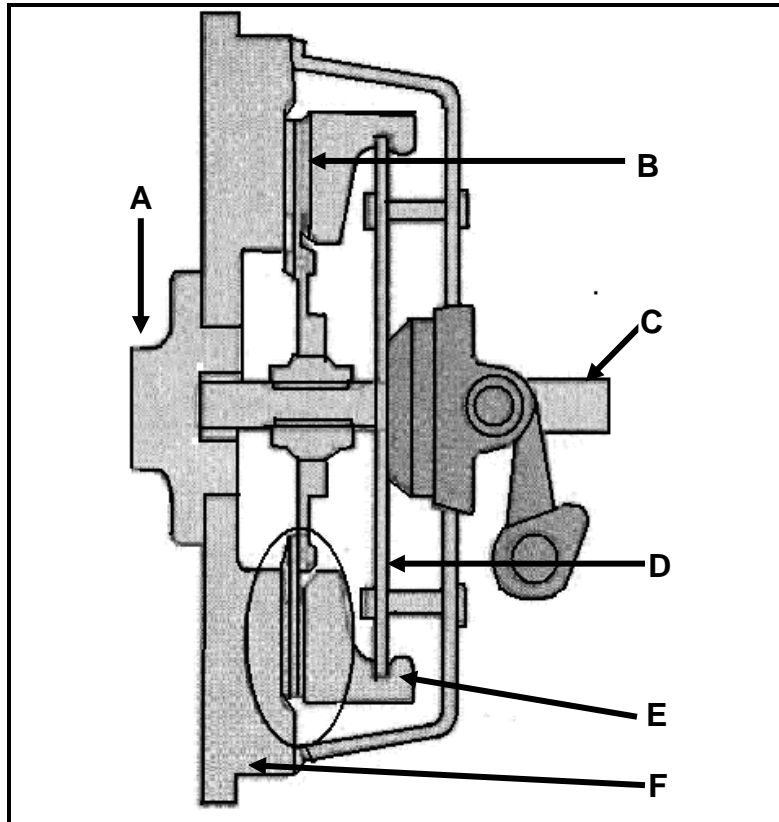

FIGURE 5.1
5.1 FIGURE 5.1 below shows a clutch and pressure-plate assembly.